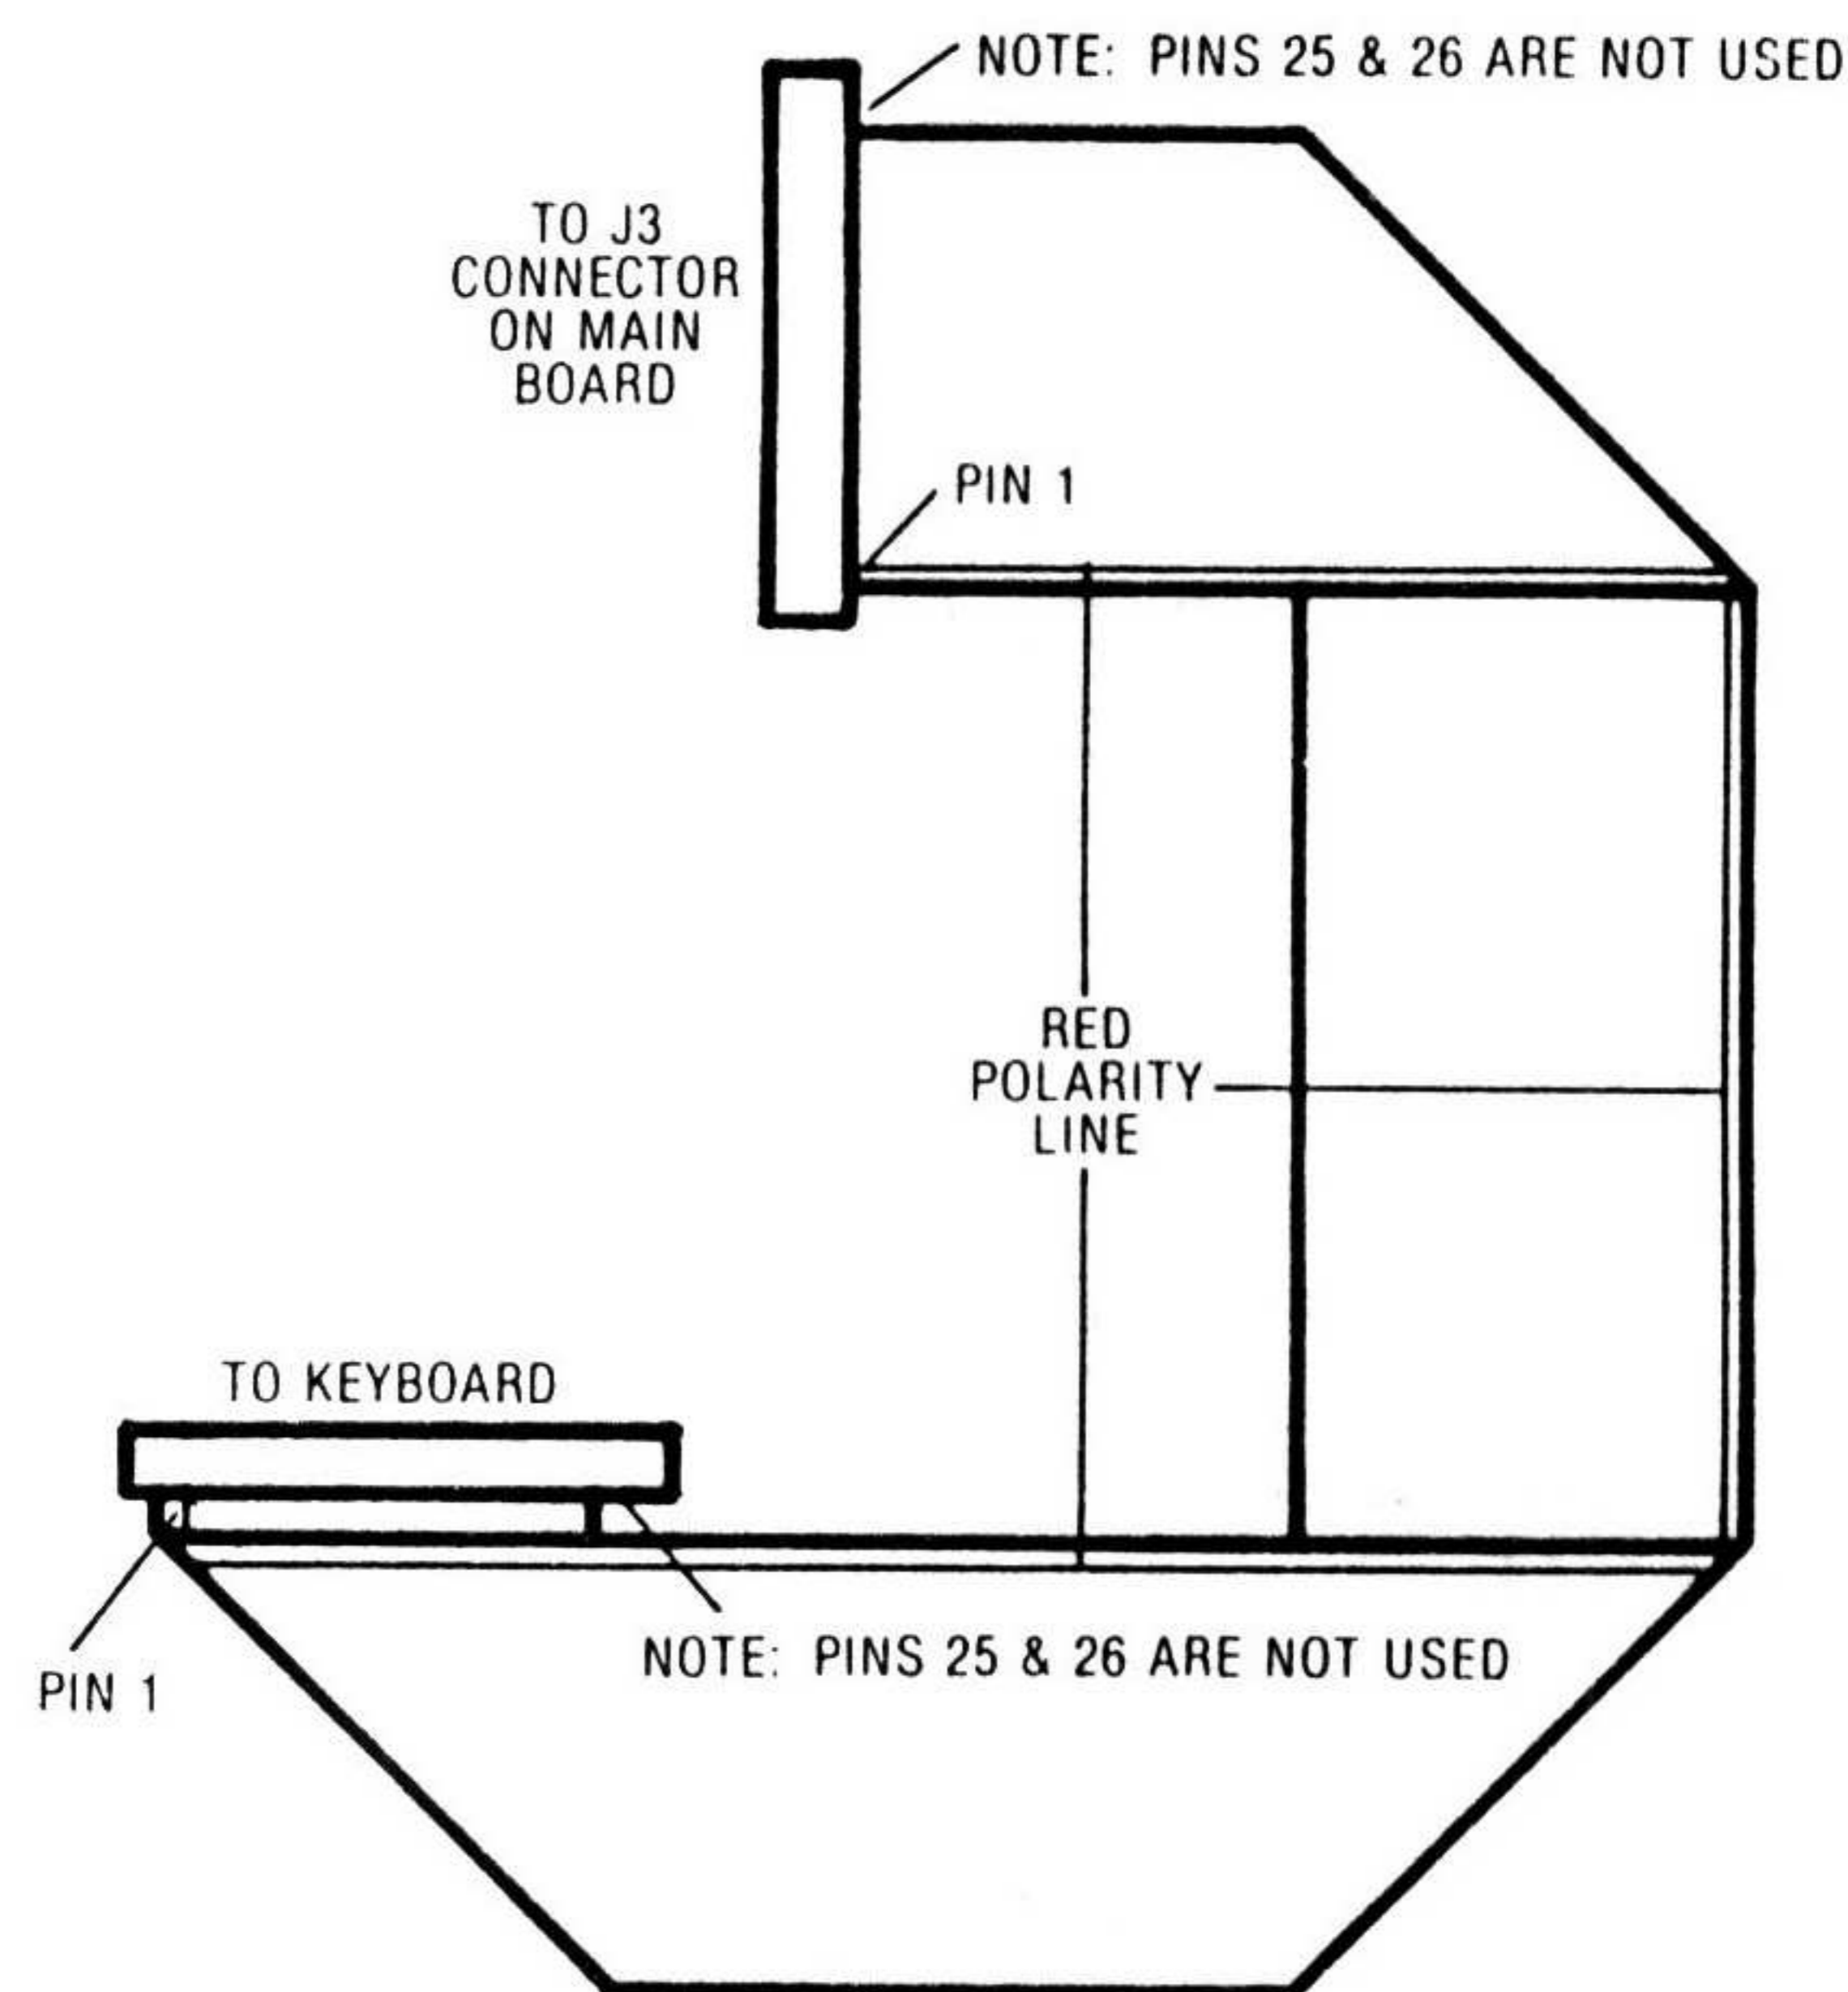

FIGURE 5 - KEYBOARD CABLE
5. To install the new keyboard, lay the right side of the keyboard into the case and carefully plug the connector into the keyboard. Note that the keyboard cable is pre-formed into several bends. Refer to Figure 5 to make sure the cable is properly routed. Then, lower the left side of the keyboard into the case, making sure that the flat cable is not in danger of being pinched by the keyboard mounting rails.